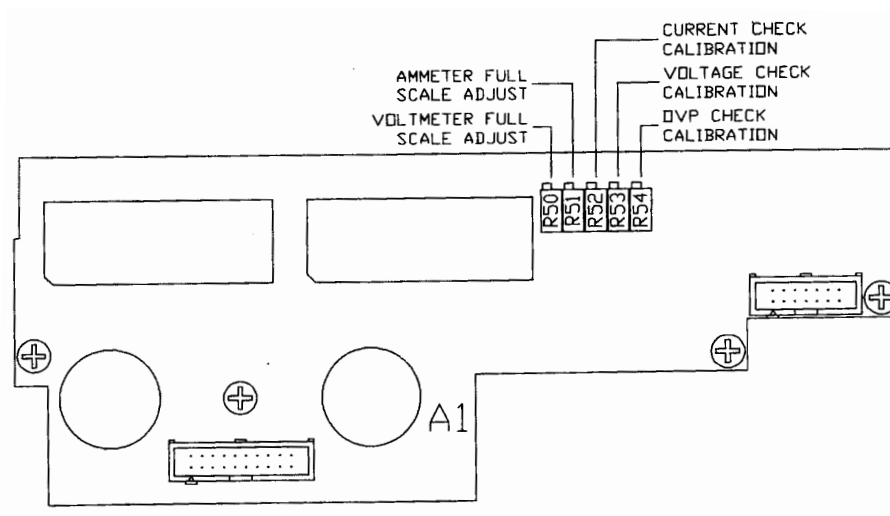

Figure 5.1 Front Panel Calibration Locations
1. Unfasten the cover and move it back one inch from the front to allow access to the calibration potentiometers on the A1 PCB. Refer to Figure 5.1 for the location of the pots.